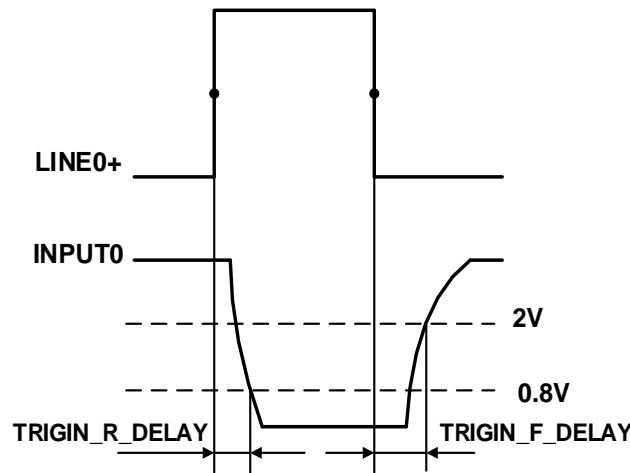

Figure 7-2 Parameter of opto-isolated input circuit
- Rising edge delay: <math><50\mu\text{s}</math> ( $0^{\circ}\text{C}\sim 45^{\circ}\text{C}$ ), parameter description as shown in Figure 7-2
- Falling edge delay: <math><50\mu\text{s}</math> ( $0^{\circ}\text{C}\sim 45^{\circ}\text{C}$ ), parameter description as shown in Figure 7-2
- Input rising time delay:  $<2\mu\text{s}$  ( $0^{\circ}\text{C}\sim 45^{\circ}\text{C}$ ), parameter description as shown in Figure 7-2
- Input falling time delay:  $<2\mu\text{s}$  ( $0^{\circ}\text{C}\sim 45^{\circ}\text{C}$ ), parameter description as shown in Figure 7-2